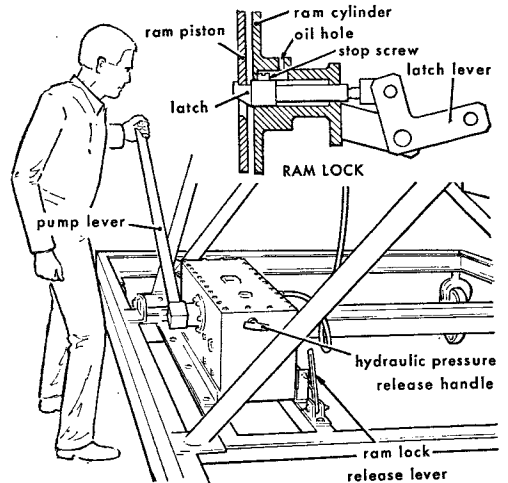

Fig 9 Ladder controls and ram lock
19. **Operation, general.** Near the base of the ram structure is a reservoir for the hydraulic oil, the ladder operating controls (Fig 9), and a pump. Operating the hydraulic pump will extend the ram and raise the platform to the desired working height. A locking mechanism locks the ram in position and removes the load from the hydraulic system when the steps are in use. The ram lock is released mechanically by a lever mounted beside the hydraulic reservoir. The platform cannot be lowered without mechanically withdrawing the ram lock and releasing the hydraulic pressure. When the ladder is in position it is steadied, before use, by lowering the two feet. The construction of this ladder is such that the steel non-slip steps are levelled automatically to suit the ladder elevation angles.